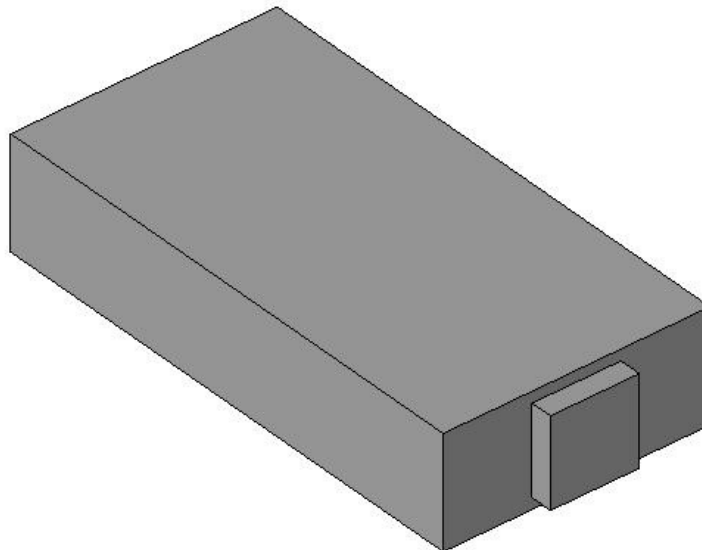

Figure 31. The finished VAV Outlet Sleeve.
12. Navigate to the **View 1** 3D view. Your screen should look like Figure 31.